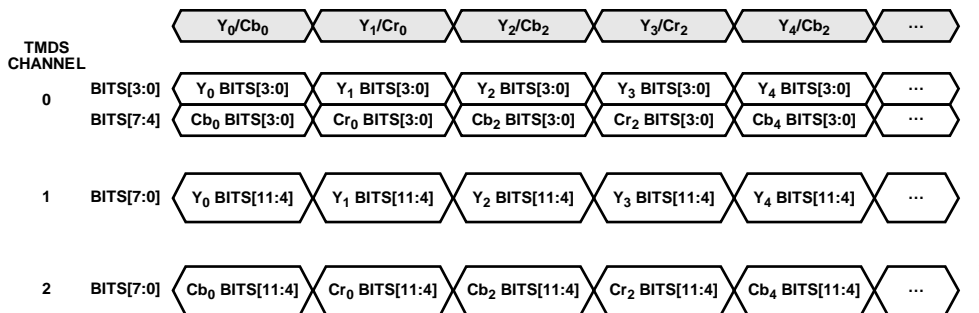
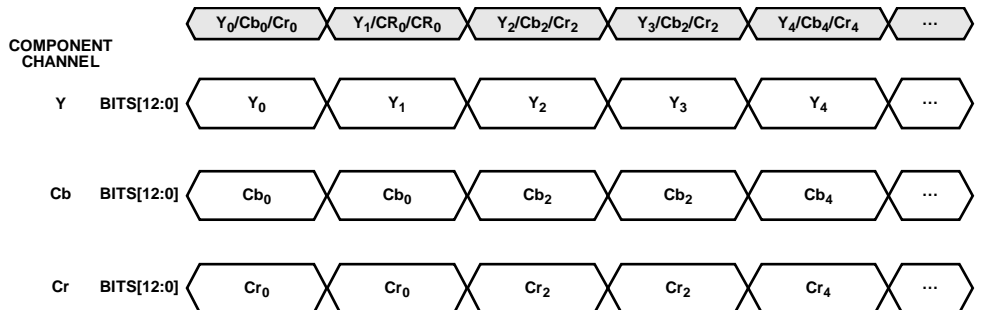

Figure 23. YCbCr 4:2:2 Video Data Encapsulated in HDMI Stream
Figure 24. Video Stream Output by HDMI Core for YCbCr 4:2:2 Input and `UP_CONVERSION = 0`
- If the HDMI section receives a stream with video encoded in a 4:2:2 format (refer to Figure 23), the HDMI section upconverts the video data into a 4:4:4 format, according to the `UP_CONVERSION_MODE` bit, and passes the upconverted video data to the DPP section (refer to Figure 24).